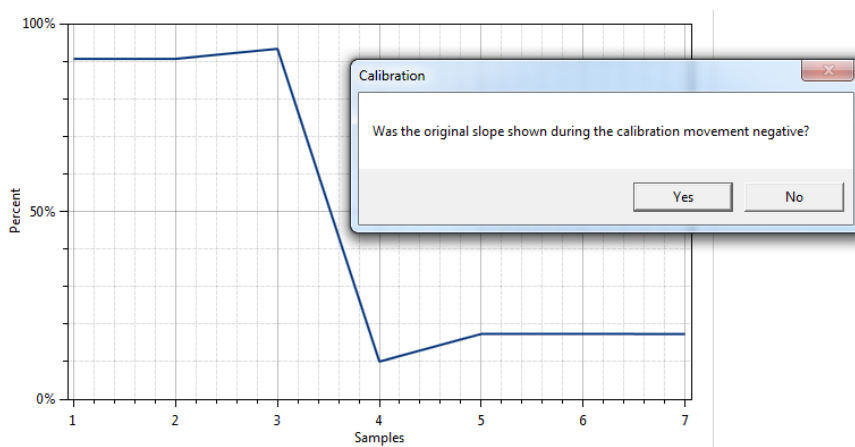

Figure 30. Specify the Original Slope
2. Move the sensing target to the end position, and click OK. The GUI will automatically attempt to determine if the slope polarity of the values is positive (values ascending) or negative (values descending). If this cannot be determined, the GUI will ask the user to specify the polarity of the slope. For the example provided in Figure 30, the slope is negative.